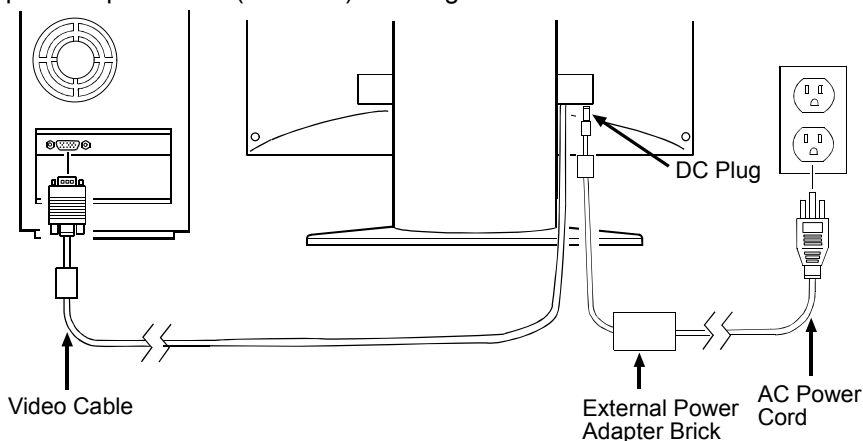

Figure 2: Connecting Cables
- 1 Plug the power cord into the supplied external power adapter brick. Plug the small end of the power adapter cord (DC Plug) into your monitor's power input socket (DC Jack). See Figure 2.
- 1 Plug the video cable's 15-pin connector (see Figure 2 on page 7) into the computer's video port, taking care not to bend any pins on the connector.